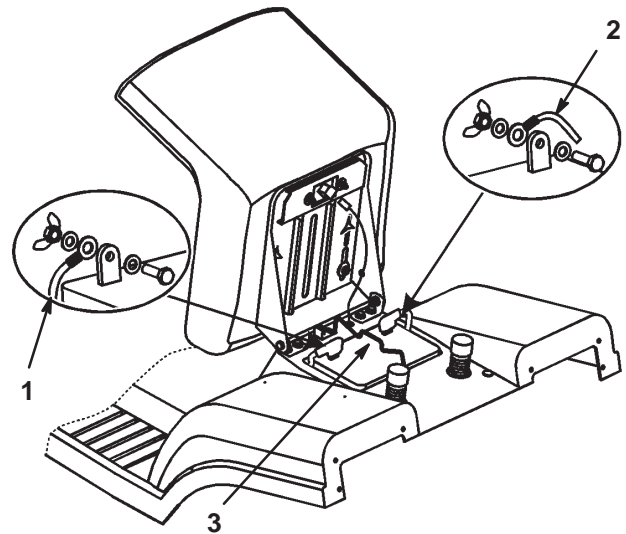

Figure 27
3. Lift the rubber cover up off of the negative (black) cable. Disconnect the negative (black) ground cable from the battery post (Fig. 27).
4. Lift the rubber cover up off of the positive (red) cable. Disconnect the positive (red) cable from the battery post (Fig. 27).
5. Remove the battery hold down rod (Fig. 27).
1. Place the battery into the chassis with the battery posts toward the front of the tractor (Fig. 27).
2. Secure the battery in the chassis with the hold down rod (Fig. 27).
3. Using the bolt and wing nut, connect the positive (red) cable to the positive (+) battery post (Fig. 27). Slide the rubber cover over the battery post.
4. Using the bolt and wing nut, connect the negative (black) cable to the negative (–) battery post (Fig. 27). Slide the rubber cover over the battery post.